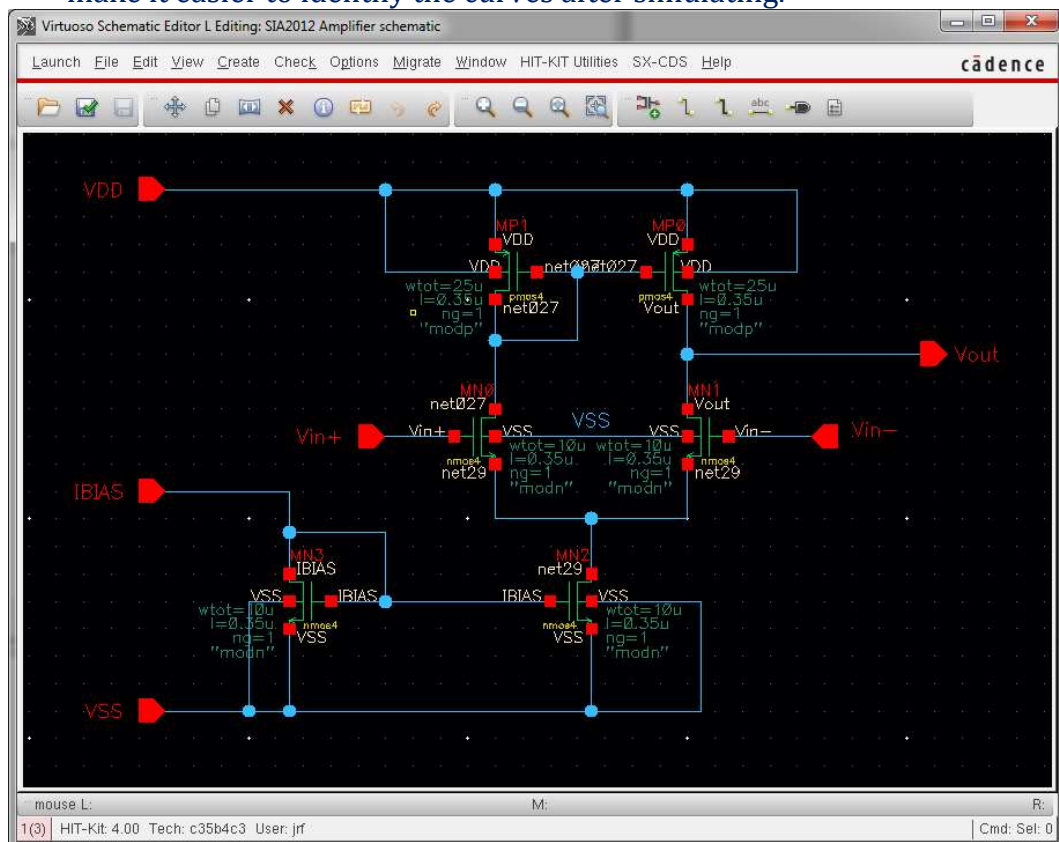

Fig. 4. Amplifier schematic
2. Import components from the analogLib and PRIMLIB and do the schematic represented in Fig. 4 with all the specifications. Add names to the wires to make it easier to identify the curves after simulating.